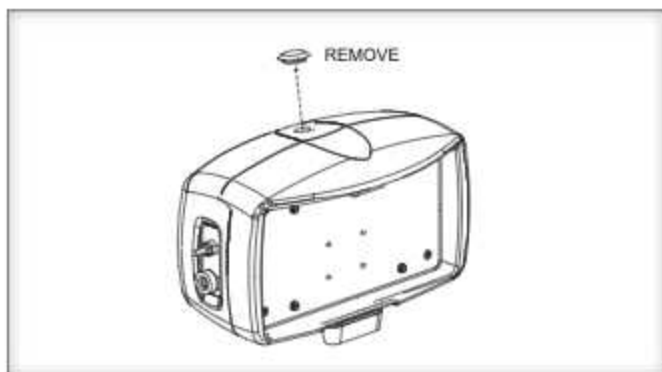

Figure 10-2
2. Remove the cap on top of the motor cover, using a coin or key. [Figure 10-2]